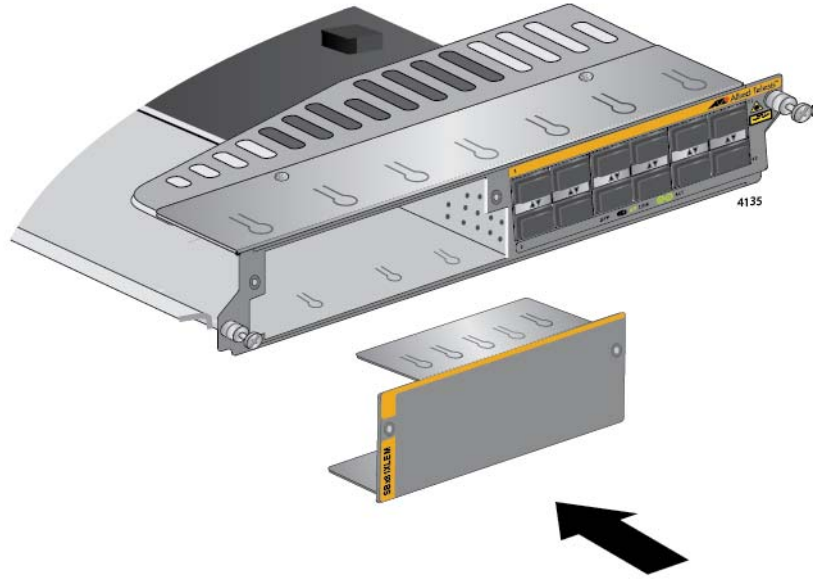

Figure 165. Sliding the Blank Slot Cover into the AT-SBx81XLEM Line Card
9. Slide the blank slot cover that comes with the line card into the slot on the card. Refer to Figure 165 on page 257.